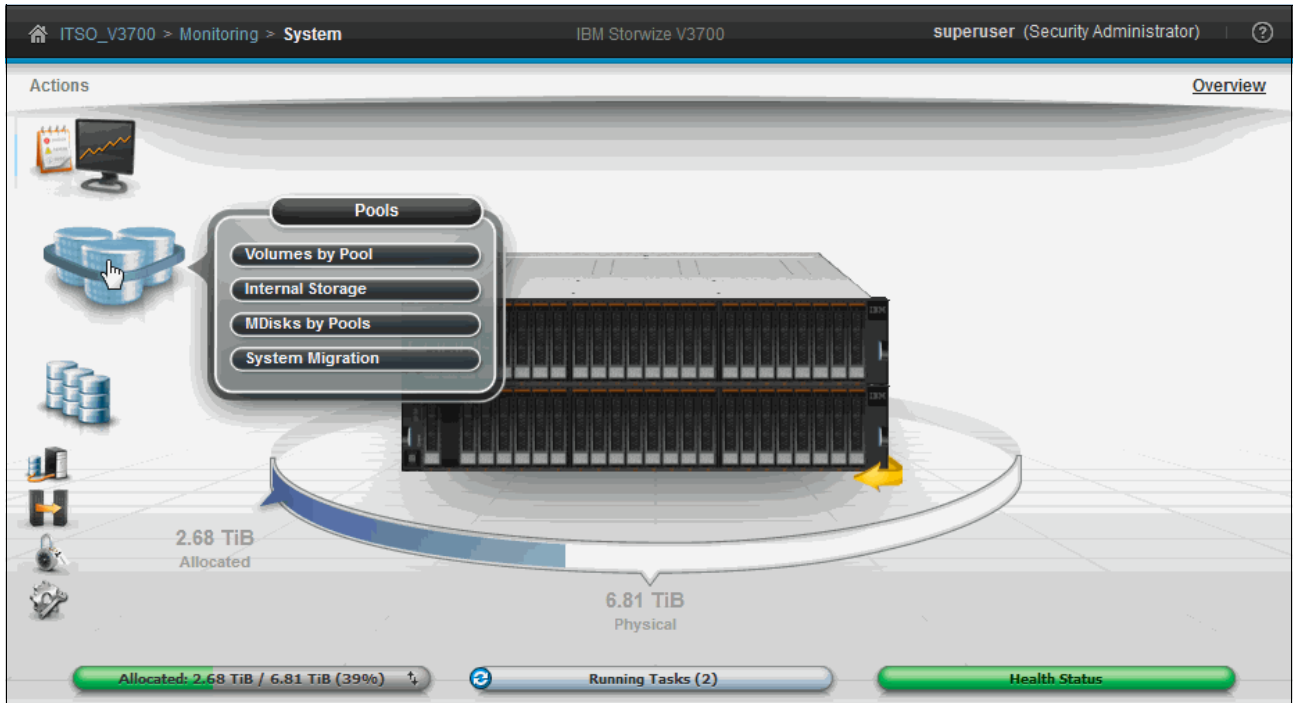

Figure 3-7 Hovering over the Pools function icon
2. Move the pointer to the required function and click the function. Figure 3-7 on page 77 shows the results of hovering the mouse pointer over the Pools function icon.